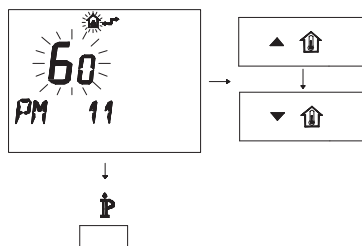

Fig. 8.21
- To modify the programmed SET, act on buttons **▲** or **▼** and wait for the programmed number to flash (Fig. 8.21). Each step increased or decreased corresponds to 1 second.